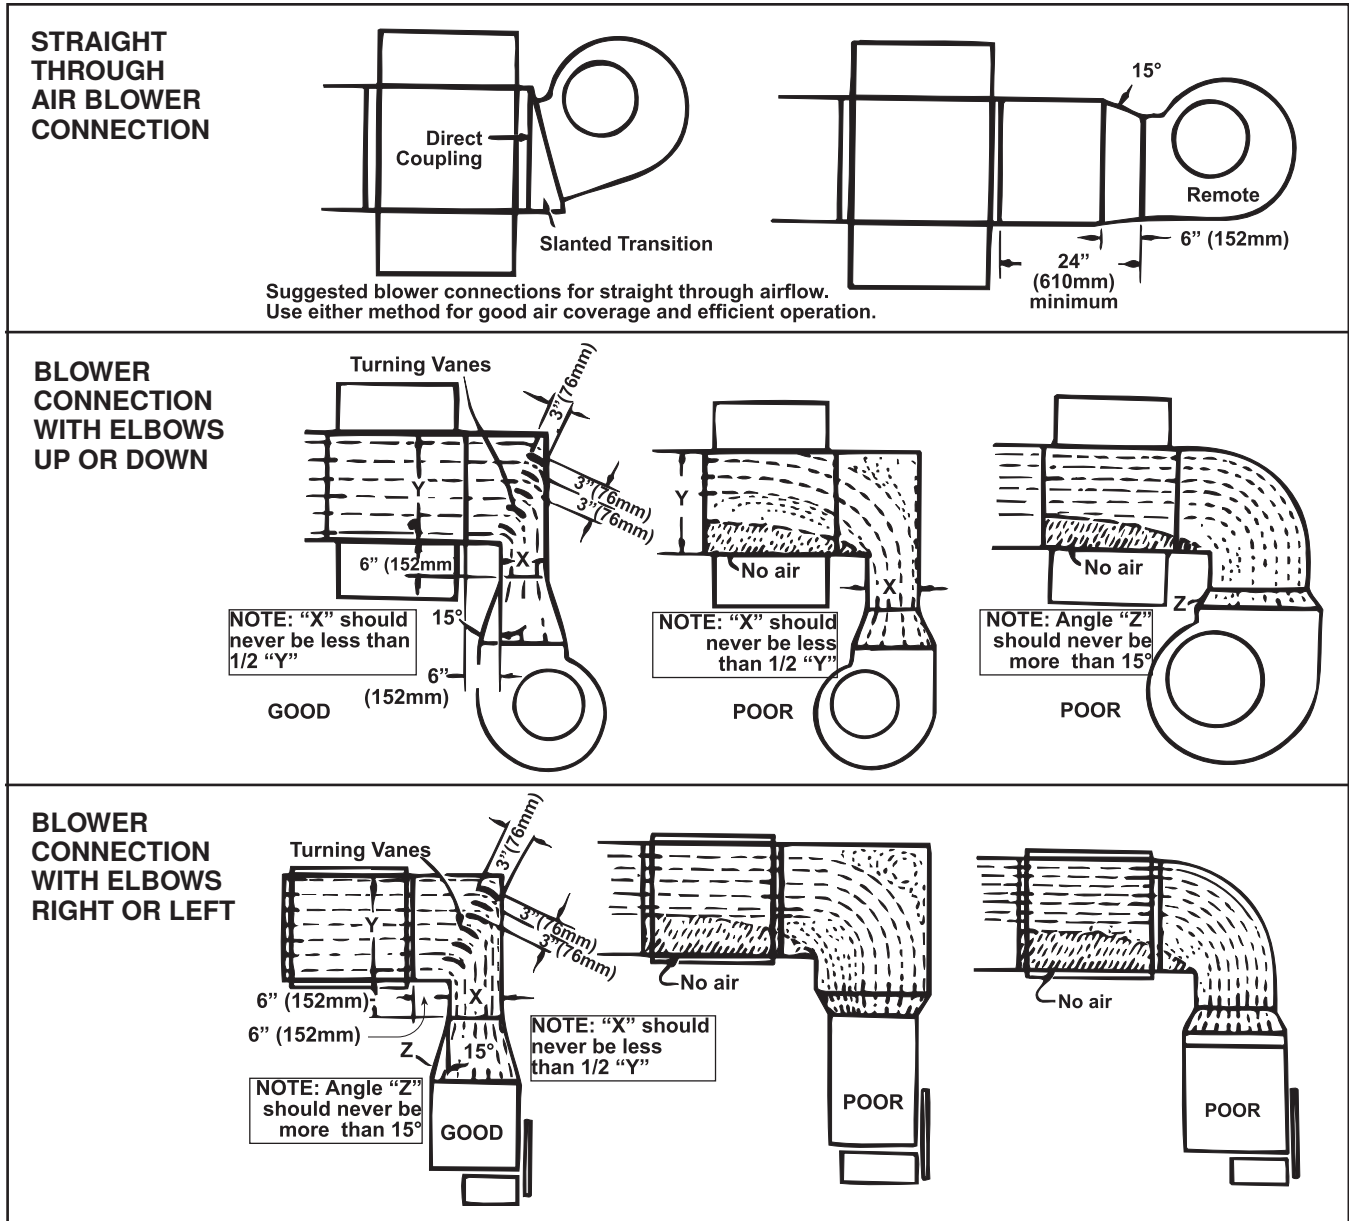

Figure 11. Duct Furnace Blower Connections
- Proper arrangements of the blower and the duct furnace with respect to the angle of approach of the duct connection and the arrangement of the discharge opening of the blower are shown in Figure 11.
Abrupt angle approaches shown in Figure 11 can be detrimental to unit life. Ensure that ample air is directed at the base of the tube section by using turning vanes as shown.